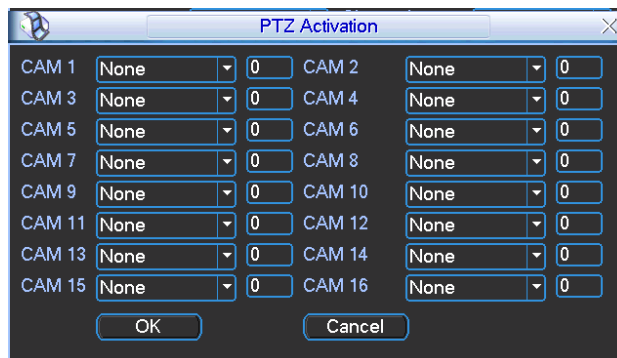

Figure 4-17
- PTZ activation: Here you can set PTZ movement when alarm occurs. Such as go to preset, tour & pattern when there is an alarm. Click “select” button, you can see an interface is shown as in Figure 4-17. Please note motion detect can only activate the preset.
In _Figure 4-17, you can left click mouse and then drag it to set a region for motion detection.